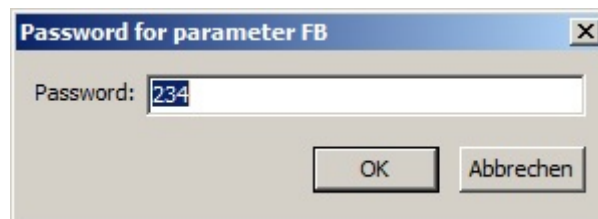

Figure 21 : Password parameter FB
- Enter the password for command FB (see **Figure 21**)